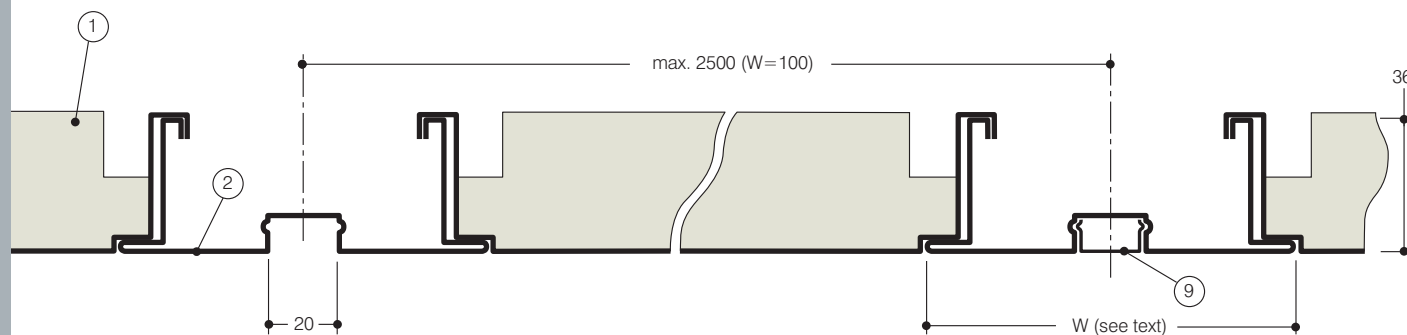
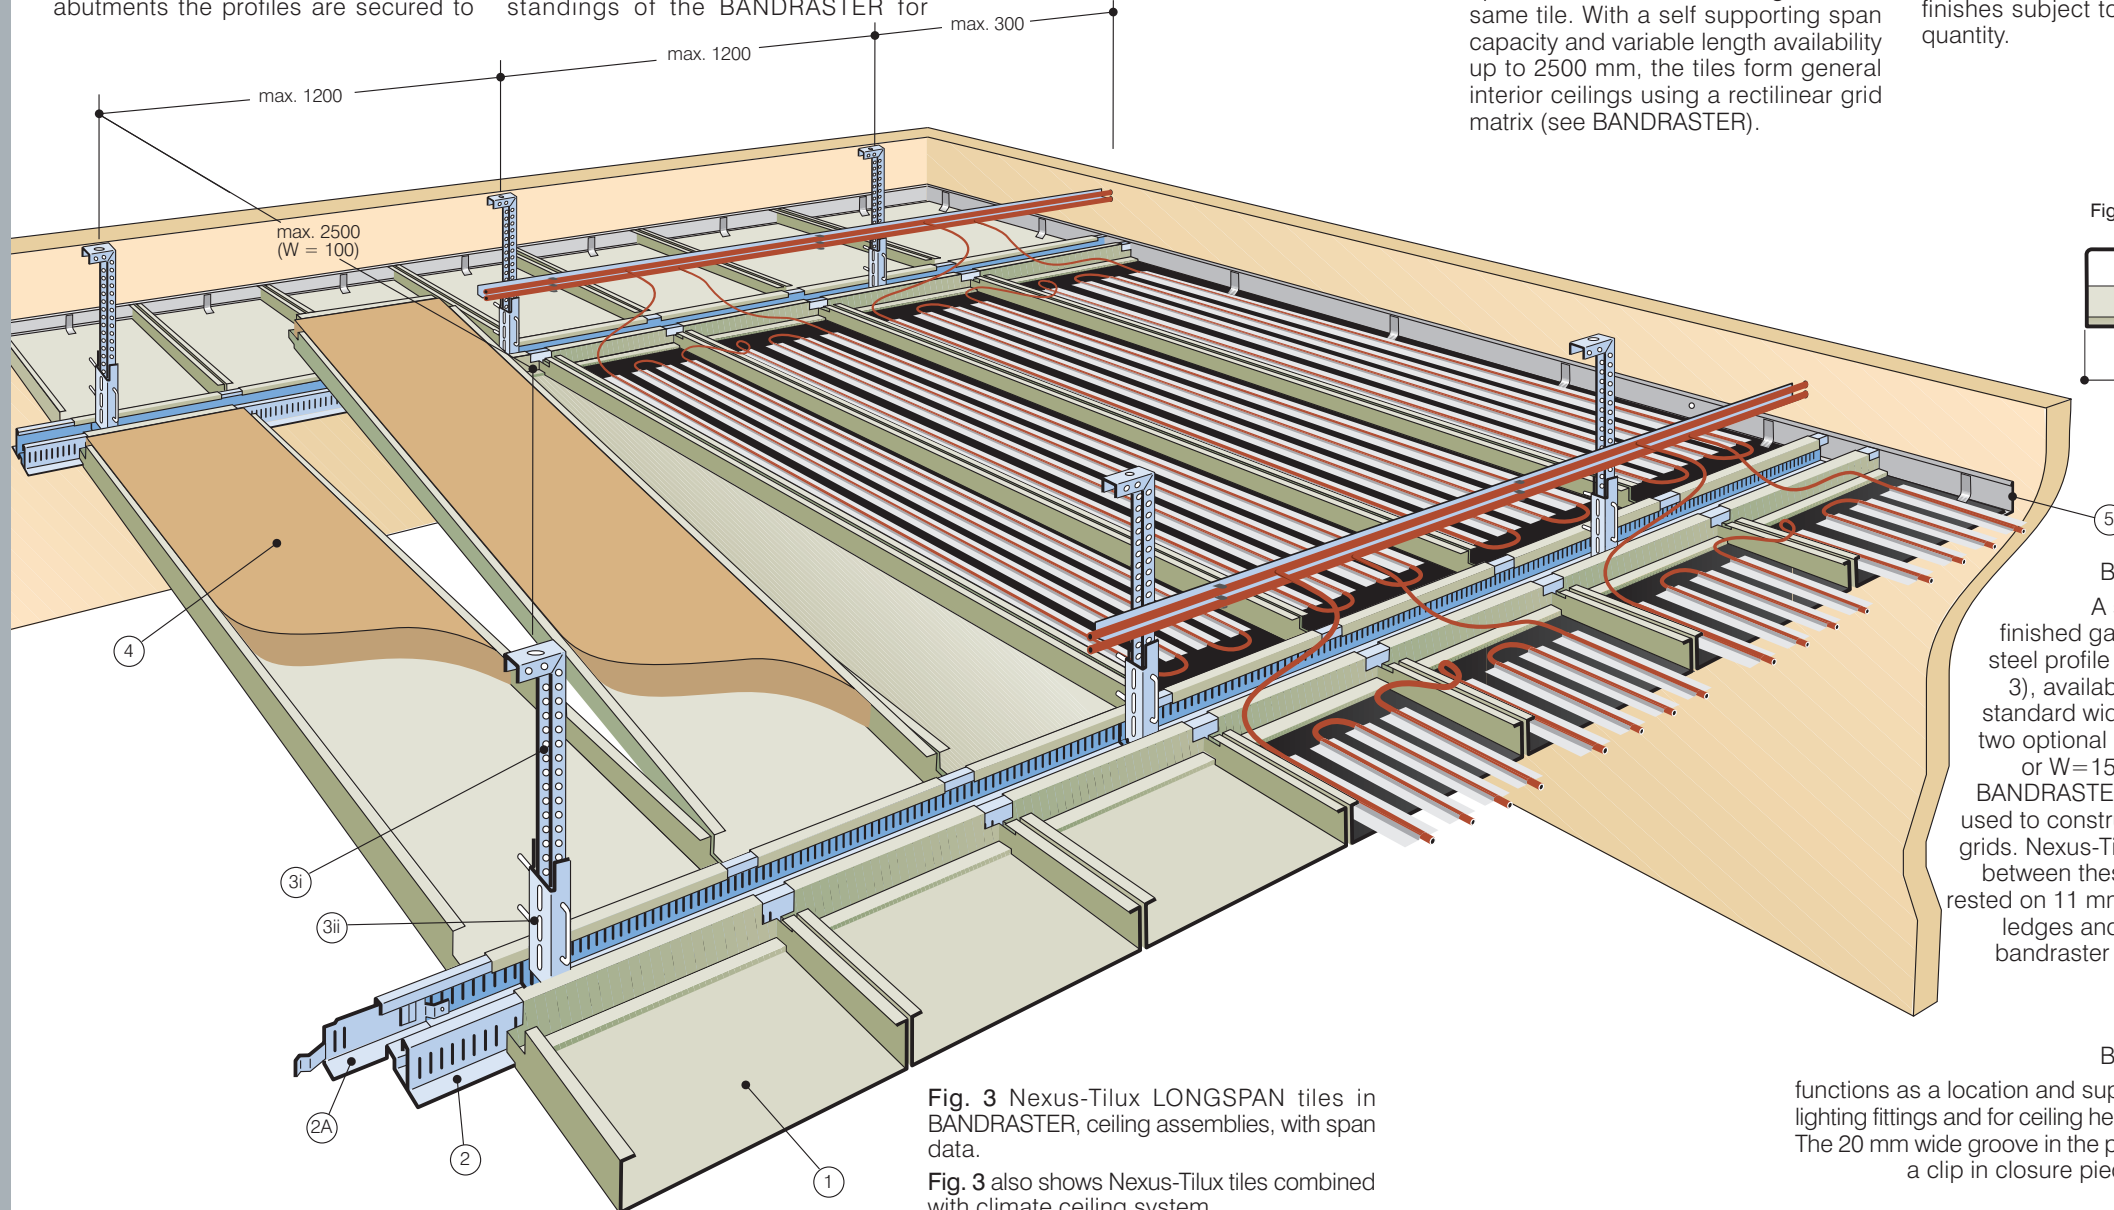

Fig. 2 BANDRASTER profiles (W=100) in cross section.
Fig. 3 Nexus-Tilux LONGSPAN tiles in BANDRASTER, ceiling assemblies, with span data.
The BANDRASTER profiles (2) (Fig.2 & 3) are located on centre of rectilinear grid lines specified in working documents/ drawings and suspended from the structural soffit by adjustable hangers and brackets (3i) & (3ii) (Fig.3). At wall abutments the profiles are secured to
A stove enamel finished galvanized mild steel profile (2) (Figs. 2 & 3), available in 100 mm standard width (W) and in two optional sizes W=120 or W=150 mm. These BANDRASTER profiles are used to construct rectilinear grids. Nexus-Tilux tiles span between these, their ends rested on 11 mm wide profile ledges and hung on the bandraster upstandings.
NEXUS-TILUX tiles can act as a climate ceiling (cooling and heating) when combined aluminium profiles and bent copper elements are connected and assembled in the Nexus-Tilux tiles (Fig.3) in the factory. Specification details and test data are available on request.
functions as a location and support track for lighting fittings and for ceiling height partitions. The 20 mm wide groove in the profile accepts a clip in closure piece (9) (Fig.2).
Fig. 3 also shows Nexus-Tilux tiles combined with climate ceiling system.